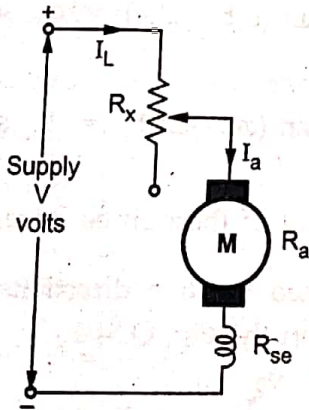

Fig. Q.52.1 Rheostatic control of series motor
• The arrangement is shown in the Fig. Q.52.1.